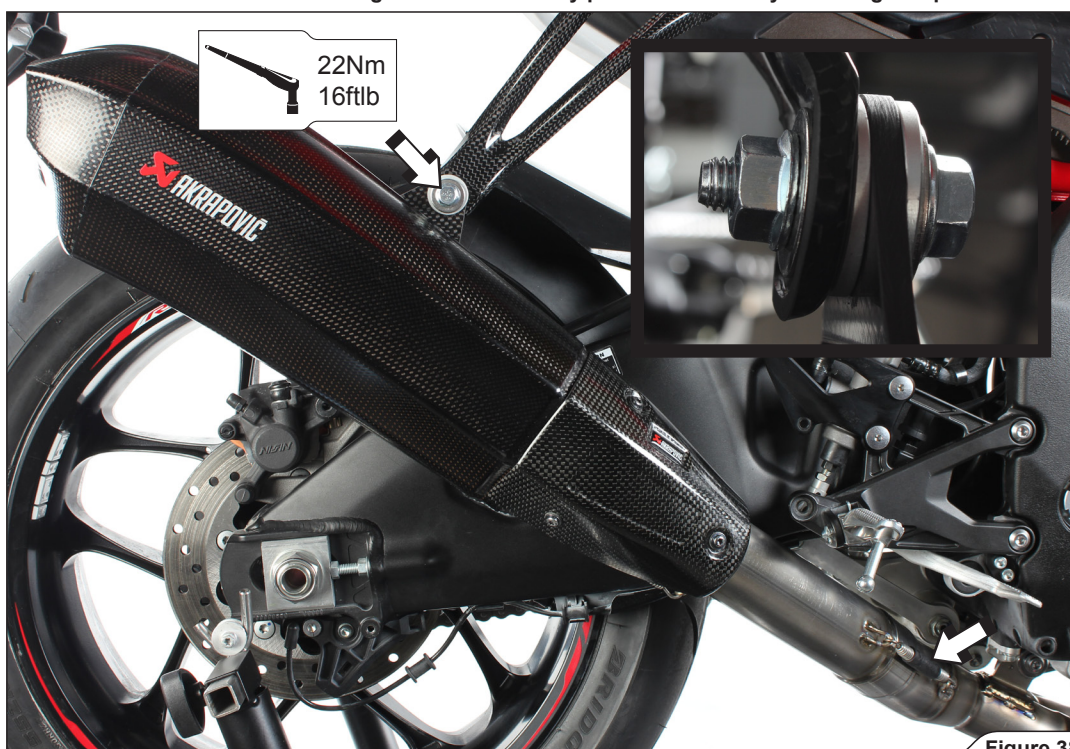

Figure 38
11. Position the muffler with link-pipe, slide it onto the outlet side of the collector and attach the springs. Align the muffler in respect to the motorcycle and tighten the bracket bolt using bolt, washers and nut from Akrapović installation kit, to the specified torque (Figure 38, 39).